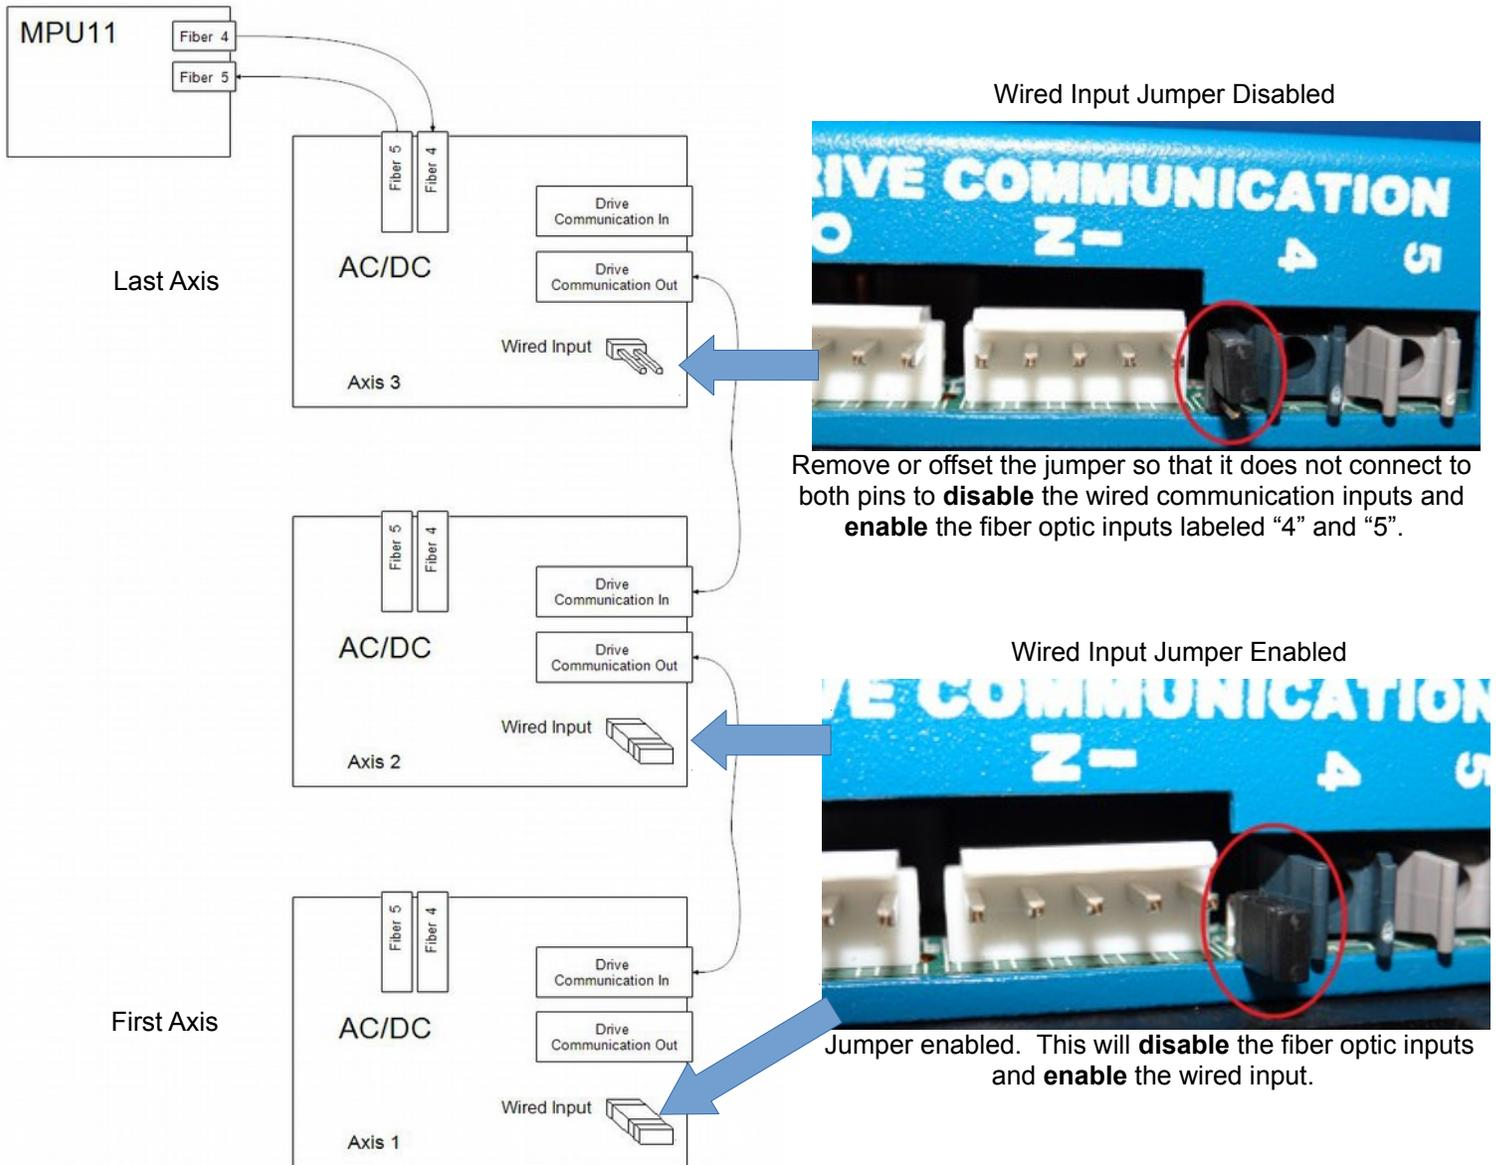

Figure 2.3.8
1. AC/DCs need to be chained together with wire or fiber optic cables to allow them to communicate. The AC/DC that is **furthest** away from the MPU11 in the communication chain will be the **first axis**. The drive closest to the MPU11 will be your **last axis**. An example set up is shown in Figure 2.3.8.
3. On the **last axis** remove or offset the wired input jumper (PN 1761) so that it does not connect both pins as shown in Figure 2.3.8. The wired input jumper will not disable the wired output, only the wired input.